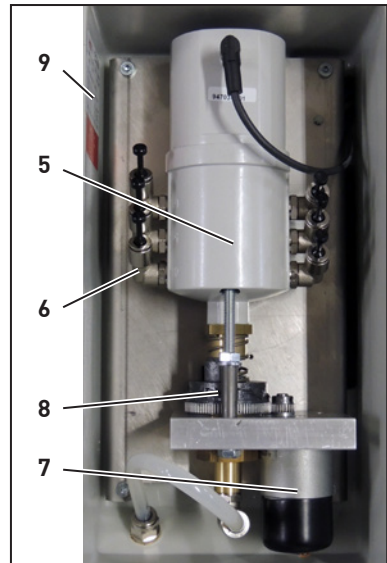

Fig. 3-2 Pump and distributor
- Insert tube ends into lubricant outlets (6, Fig. 3-2) and make sure they are tight and secure.